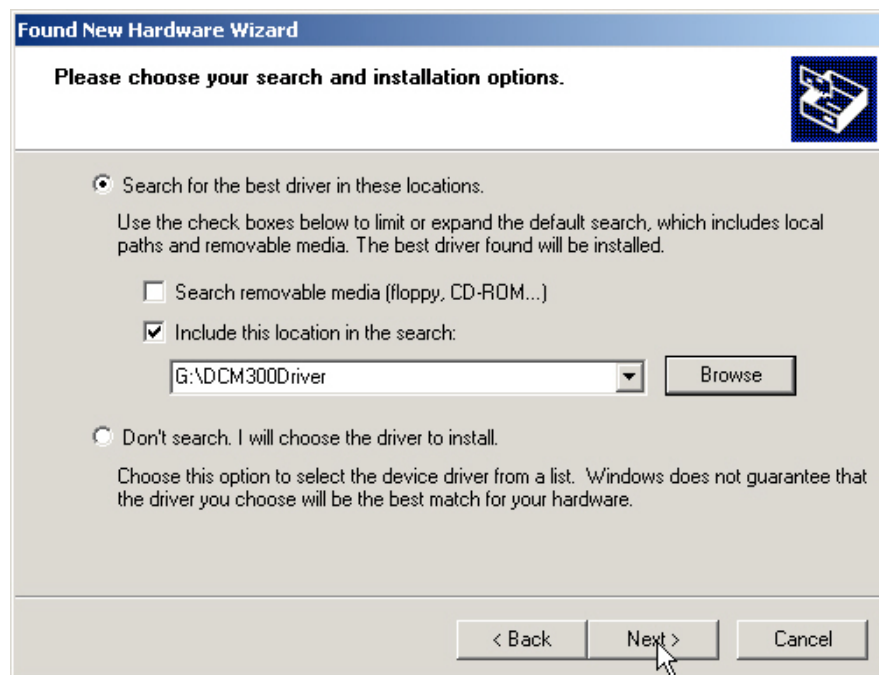
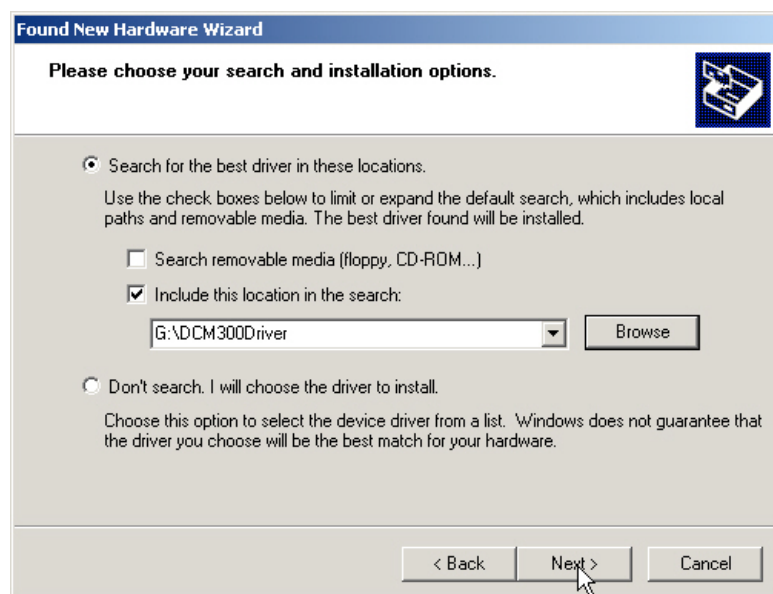
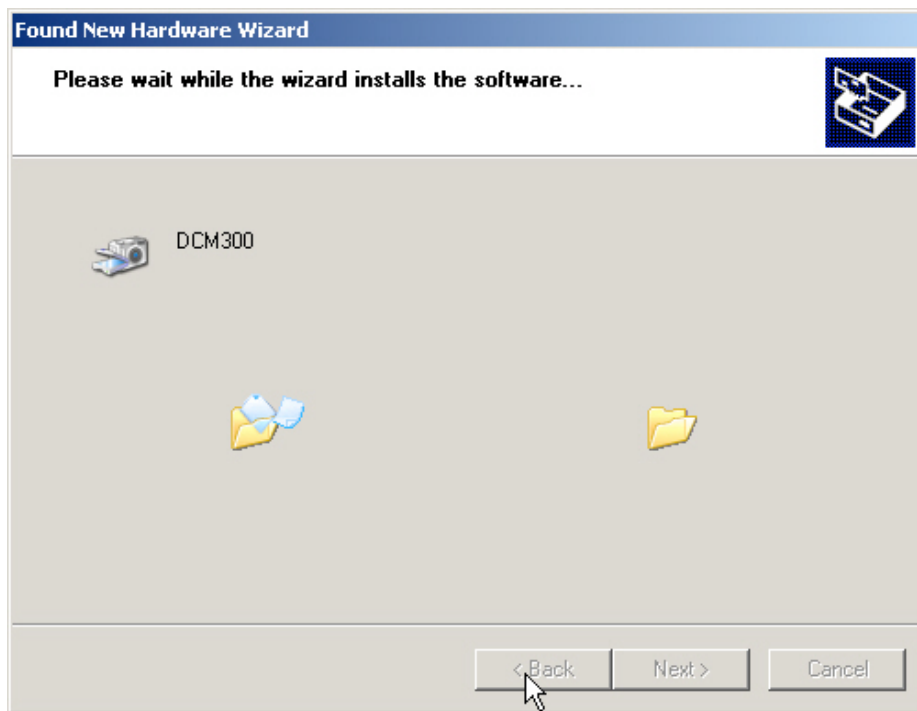

Fig 2.3
Fig 2.5
Fig 2.6
c) A dialog box for “Please choose your search and installation options” will pop up as shown in Fig.2.3 , check “Include this location in the search ”, and press “Browse” button
have DCM300(USB2,0)'s driver files **dcm300.inf** and **dcm300.sys** , press **OK** button, the programme will return to Fig.2.3's dialog box , but the directory name was changed as shown in Fig.2.5 (if you have installed it before, it will not changed, then just press **Next>** button
e) Press **Next>** button in Fig. 2.5, the application will begin to copy the driver files to the destination folder as shown in Fig.2.6